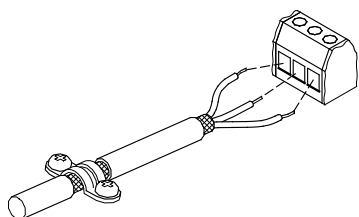

Fig. 141 Example of stripped cable with screen
- Leave the screen as close to the connecting terminals as possible. See fig. 141.